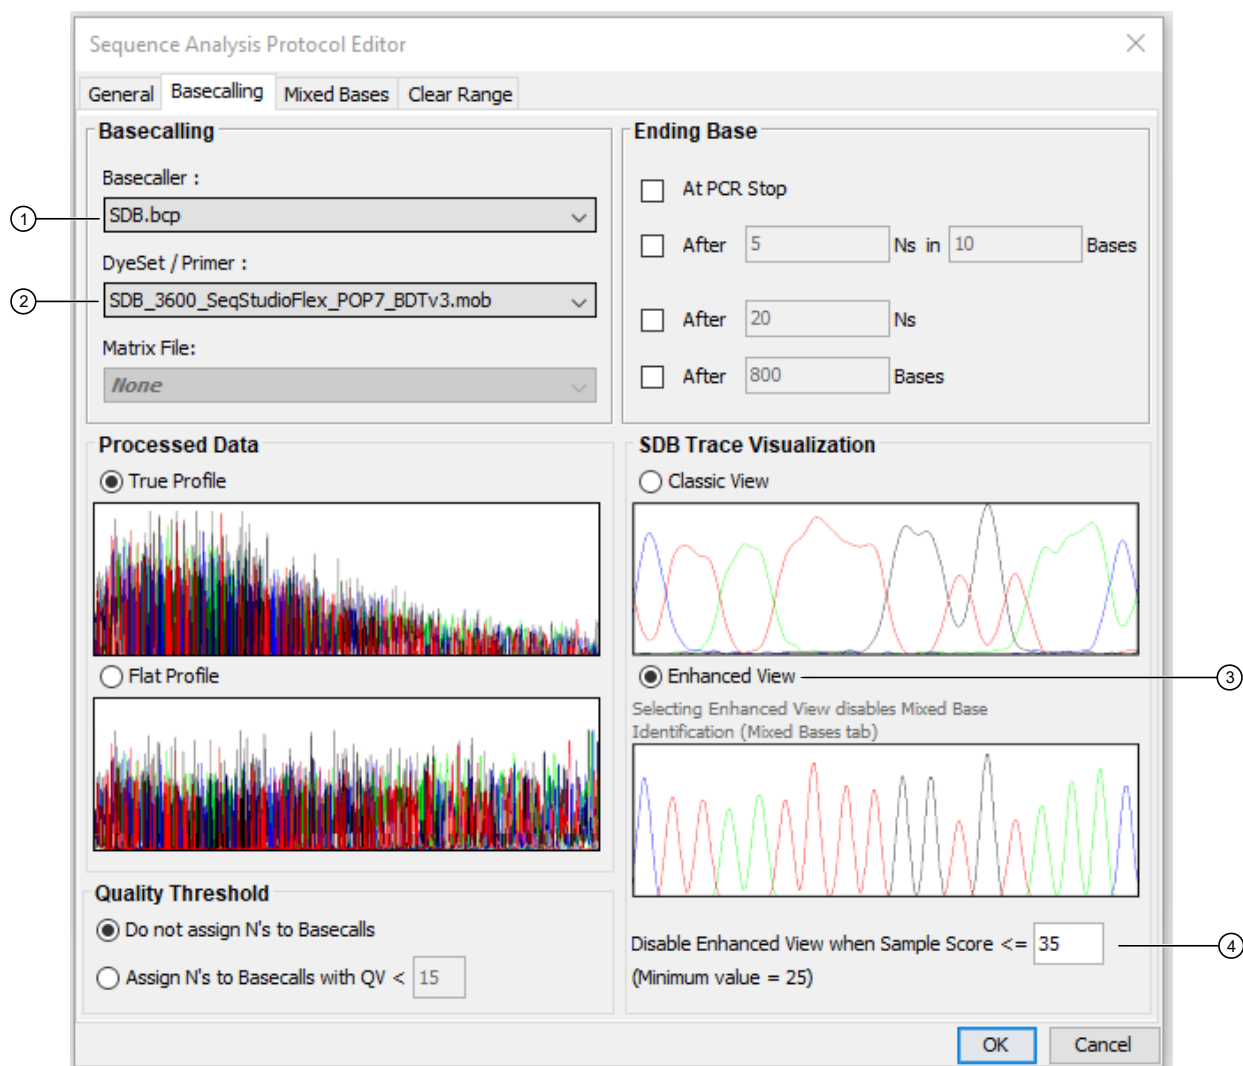

Figure 12 Basecalling tab (using SDB)
- ① Basecaller selection, use with KB and ABI (also use with SDB, see Figure 12)
- ② .mob file, use with KB and ABI (also use with SDB, see Figure 12)
- ③ Use with KB and ABI (also use with SDB, see Figure 12)
- ④ Use with KB and ABI (also use with SDB, see Figure 12)
- ⑤ Use with KB and ABI (also use with SDB, see Figure 12)
SDB Trace Visualization^[1] (see Figure 12)